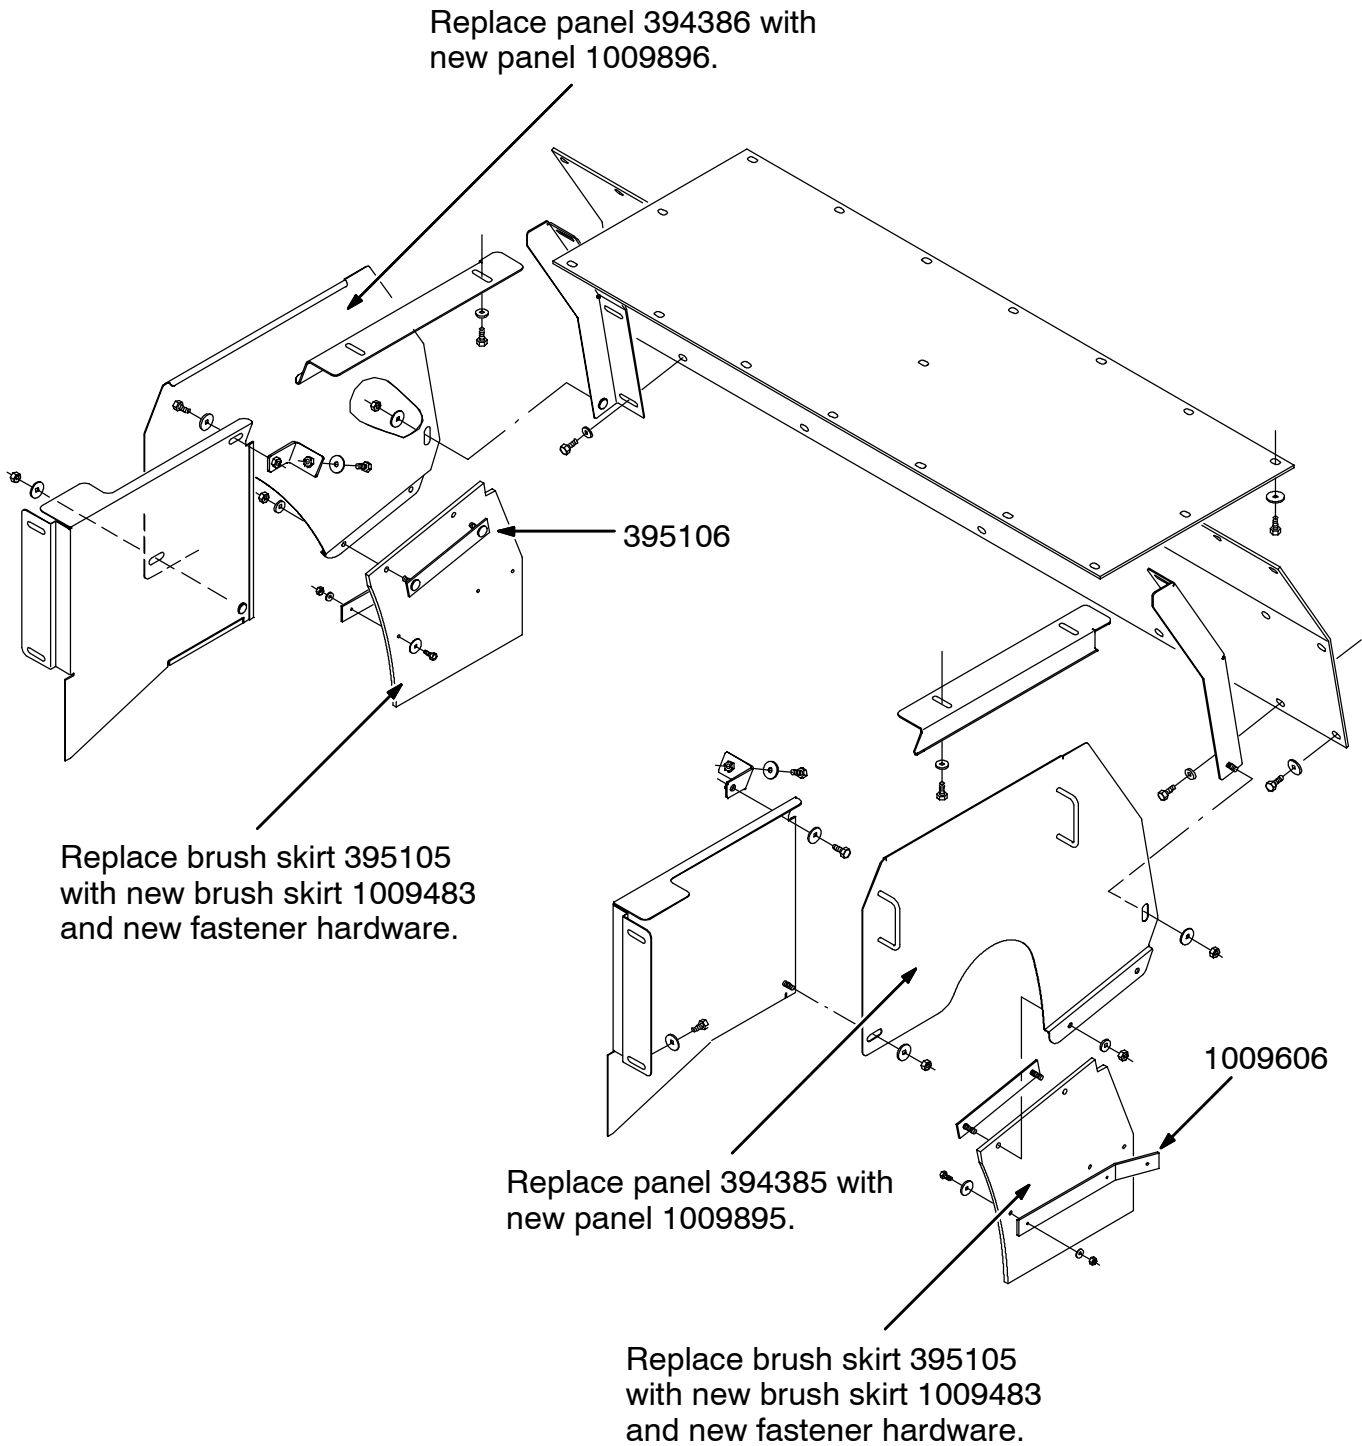

FIG. 1 - Main Brush Skirt and Shield Replacement
(Refer to FIG. 1 and 2)
(Refer to FIG. 1)
2. Orient one brush skirt 1009483 in mounting position for new left hand side panel 1009895. Mount new skirt strip 1009606 to brush skirt 1009483 with three hex screws 09007, fender washers 41178, flat washers 01684 and lock nuts 08712. Torque M6 hardware to 7.9 – 9.9 Nm (5.5 – 7 ft lb). (Refer to FIG. 1)
3. Mount brush skirt 1009483 to left hand side panel 1009895 with set aside retainer strip 395106 and mounting hardware. Torque M10 lock nut hardware to 37 – 48 Nm (25 – 35 ft lb). (Refer to FIG. 1)
4. Repeat steps 1–3 to install new right hand side panel 1009896 and brush skirt 1009483 on the right hand side of the machine. (Refer to FIG. 1)